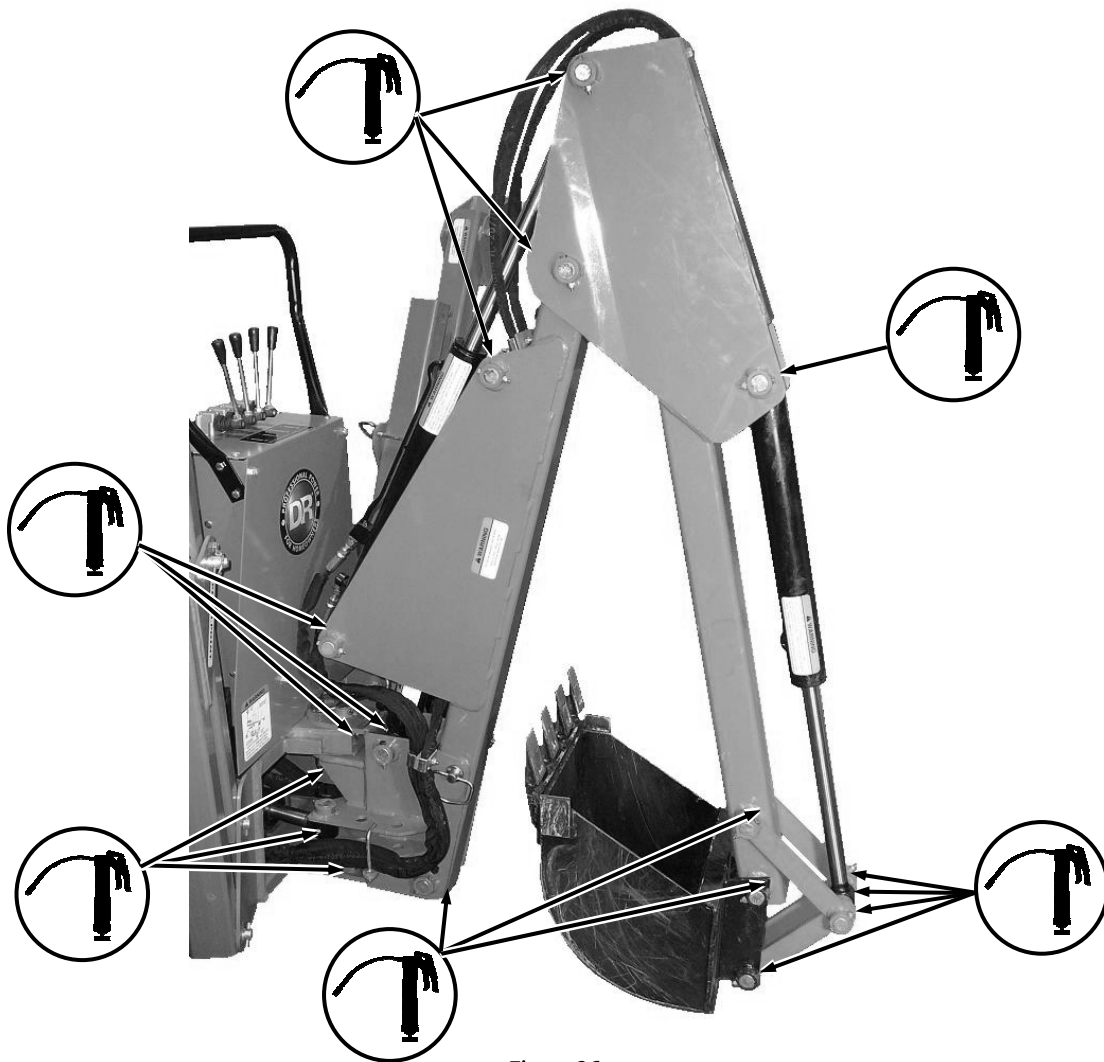

Figure 36
2. Grease the Backhoe at all seventeen Grease Fittings (**Figure 36**) until you notice grease escaping from the joint.